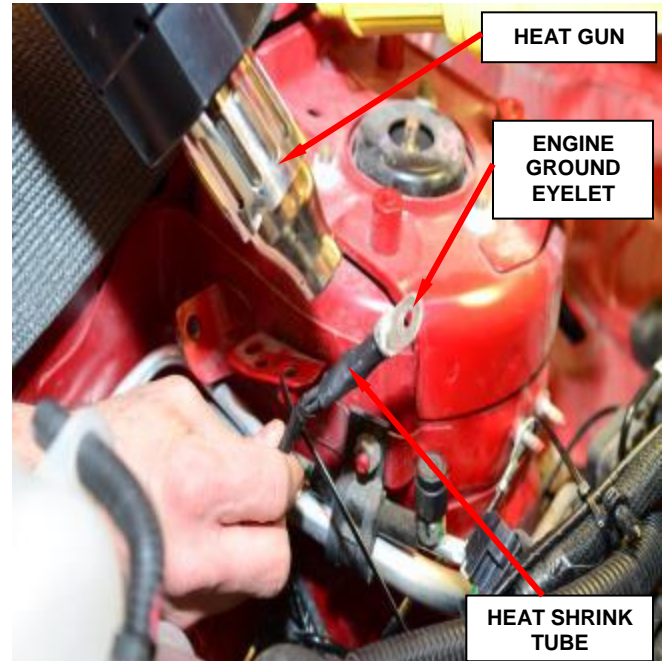

Figure 16 – Heat Shrink Tube
16. Slide the supplied heat shrink tube evenly over the remaining engine ground eyelet crimp and apply heat to the shrink tube until glue comes out of both ends of the heat shrink tube (Figure 16).